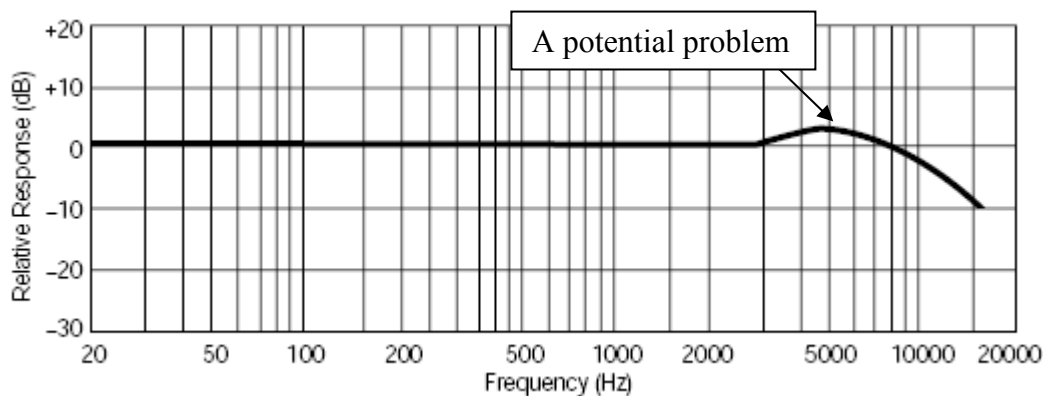

Figure 1-9 – Typical sensitivity response for inexpensive electret microphones
- Since the electret condenser microphone is omni-directional, it may prove difficult to operate the system under full volume conditions. One issue that can exacerbate these unwanted feedback effects is that some cheap microphone cartridges have a little more sensitivity at the high frequencies, such as shown in Figure 1-9. This is where an extra pole in the response may help. Try adding C2 into your circuit and see if that improves the system's ability to operate under high-volume conditions with a voice signal. If you built the tone-control circuit, that can also help in a similar fashion.